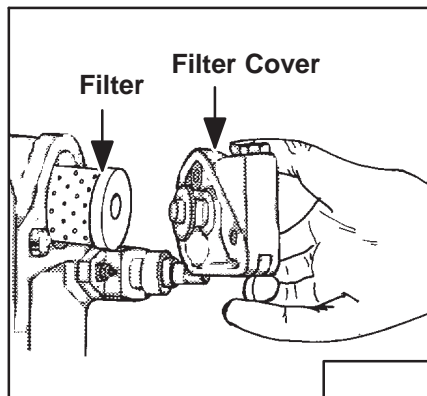

Fig. 1-14 Remove Filter cover (Petter)
1. Remove filter cover (Fig. 1-14).